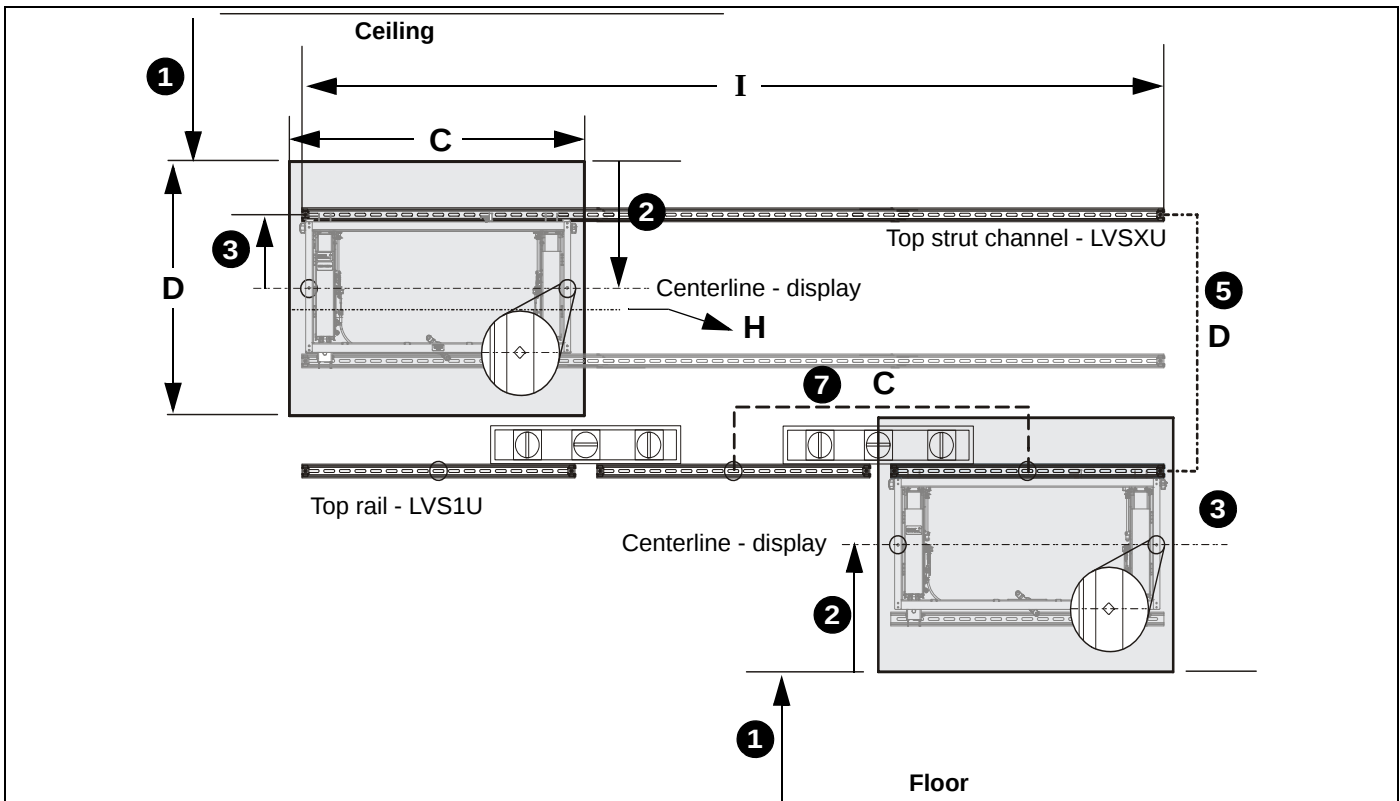

Figure 7
1. Mark distance **(F)** from floor to desired location for **bottom** of display **OR** from ceiling to desired location for **top** of display (if installing top row first). (See Figure 1) and (See Figure 7)
2. Mark distance **(G)** from bottom of display (or top of display) to center line of display. (See Figure 1) and (See Figure 7)
4. Level and attach strut channel/rail (V) using the provided hardware. See **Parts** drawing, (See Figure 7) and (See Table 4).
8. **(LVS1U only)** Measure over **(C)** (width of display) from center of first installed rail, level and mark location of adjacent rail. (See Figure 1) and (See Figure 7)
10. Attach upper rails (V) using **Fastener Information**. (See Table 4)
11. Measure up from attached rails the distance **(D)** and mark for next row of rails (V). (See Figure 1) and (See Figure 7)
13. Repeat Step 11 for any remaining rows of rails (V).